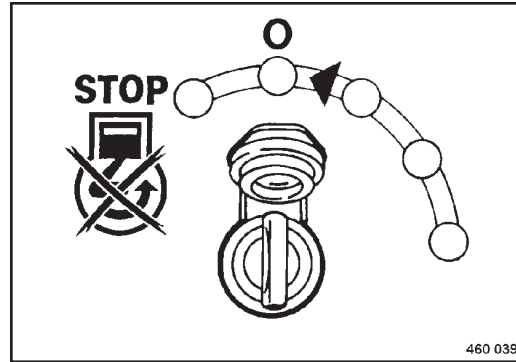

Fig. 55
- Turn the ignition switch (Fig. 55) to position "0" or "P" and pull the ignition key out.